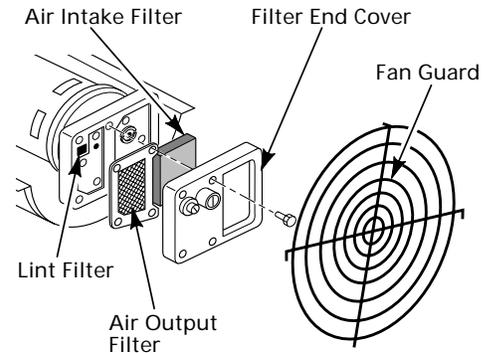
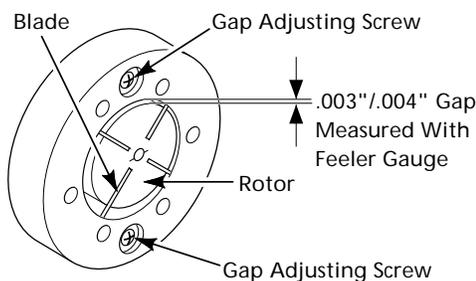

Figure 8 - Air Output, Air Intake, and Lint Filters
Figure 19 - Gap Adjusting Screw Locations
9. Check gap on rotor. Adjust to .003" / .004" if needed (See Figure 19).
14. Place fine grade sandpaper (600 grit) on flat surface. Sand rotor lightly in "figure 8" motion four times (See Figure 19).